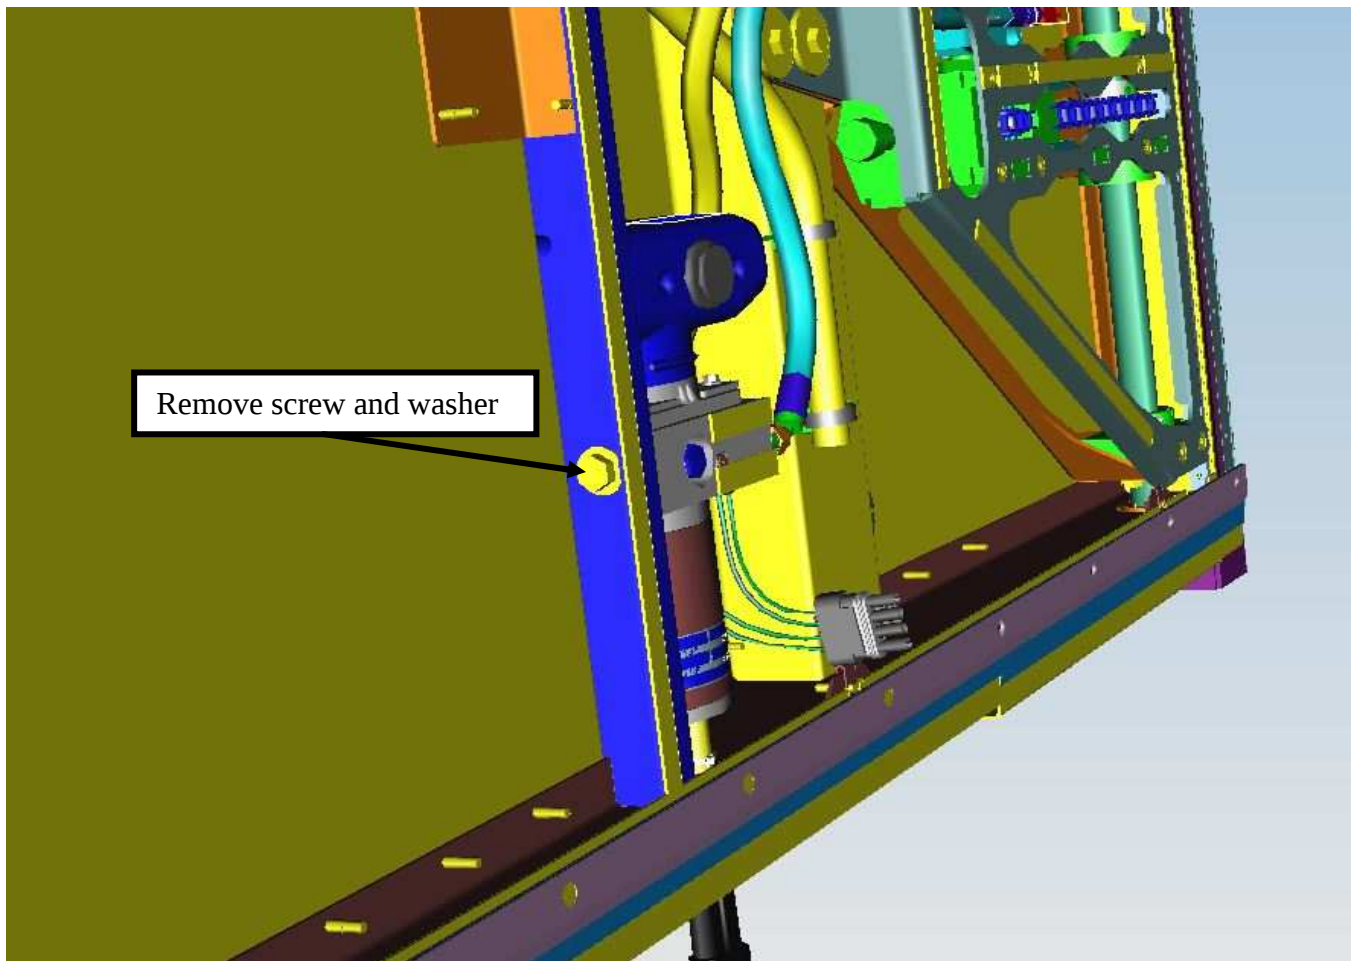

Figure 5: Powerpack retaining screw
- d. Locate and remove and retain the screw and washer securing the powerpack to the frame and remove the powerpack. Figure 5.